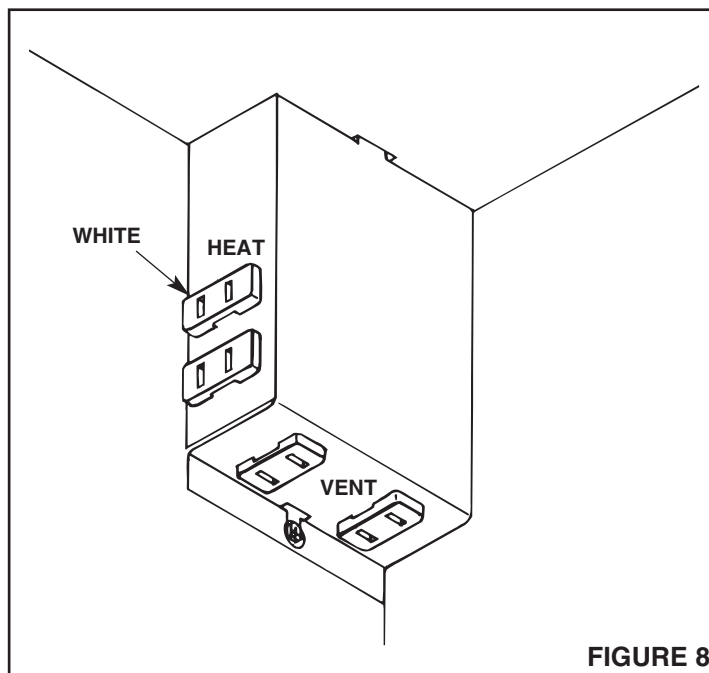

FIGURE 8
2. **Refer to Figure 8.** Insert light plug and night light plug into receptacles.